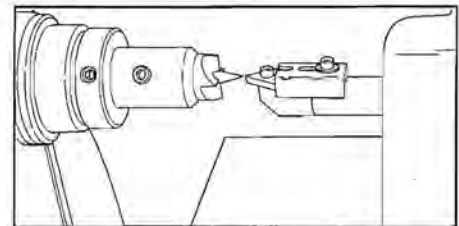

Figure 3. Align the carbide cutter with the drive center.
1. **Align the carbide cutter with the drive center.** Move the table assembly next to the headstock. Position the carbide cutter facing the drive center. Adjust the table height so that the upper surface of the cutter tip almost touches and is in line with the tip of the drive center. (See Figure 3.) Lock the table at this height.